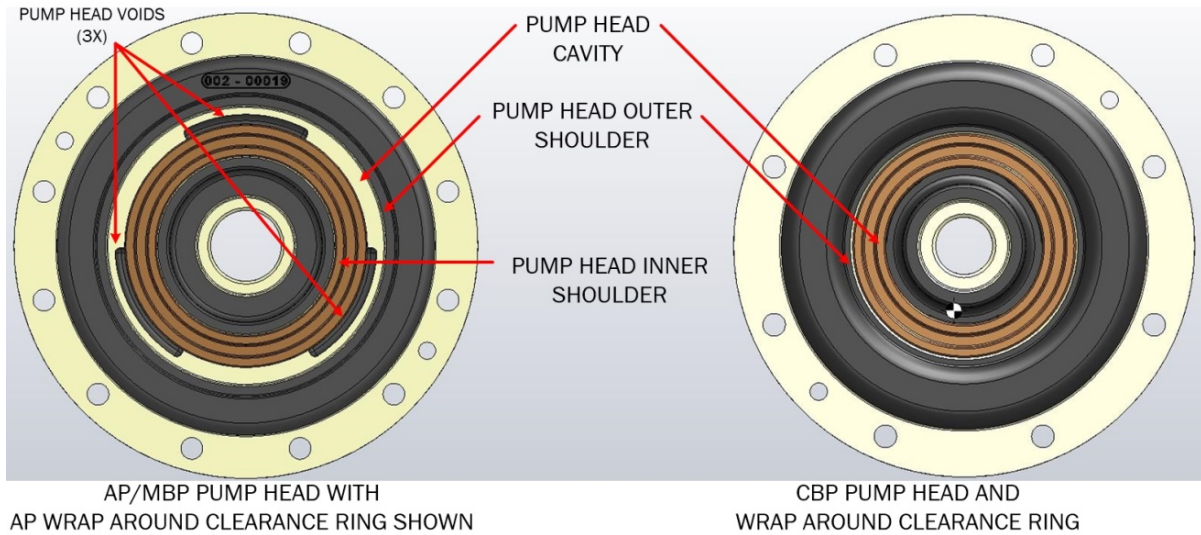
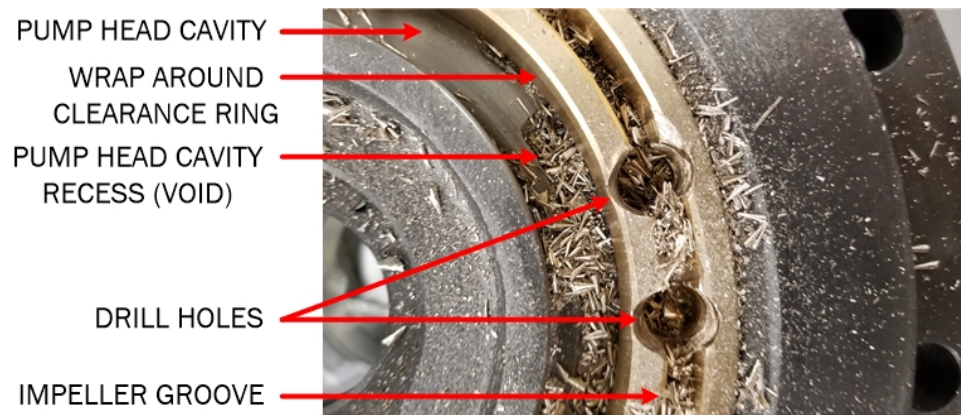

Figure 41. Wrap Around Clearance Rings – Pump Heads
Figure 42. Clearance Ring Drilled Out (MPB Pump Head)
- B. Using drill with 1/4-in bit, drill two holes approximately 1-in apart into failed clearance ring (directly over one of the three (3) recesses (voids) in the pump head). See Figure 41 and Figure 42.
- C. Drill thru clearance ring but NOT into pump head. See Figure 42.